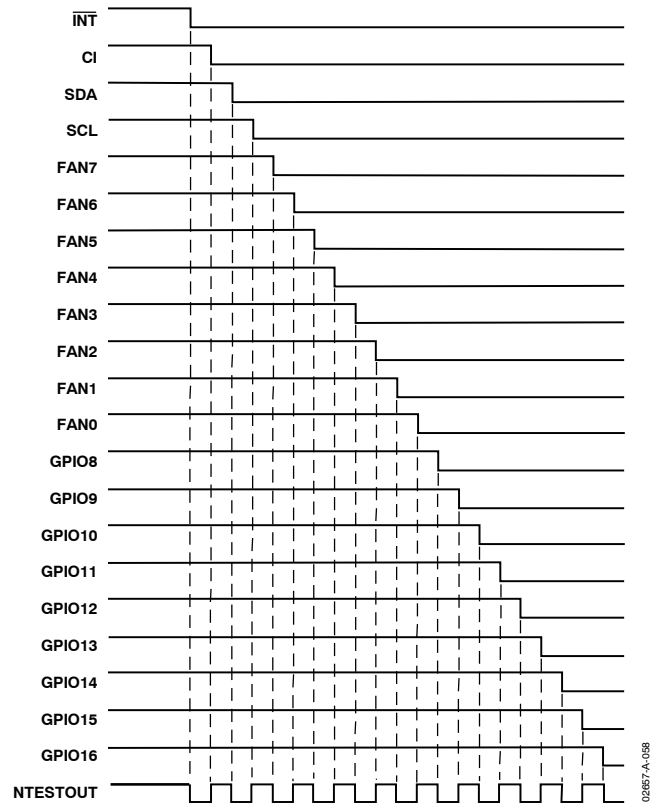

Figure 58. NAND Tree Test Taking Inputs Low in Turn
2. Start with all inputs high and take them low in turn, starting with the input furthest from NTEST_OUT (INT) and working down the tree to the input nearest to NTEST_OUT (GPIO16/ THERM). This should give a similar output pattern to Figure 58.